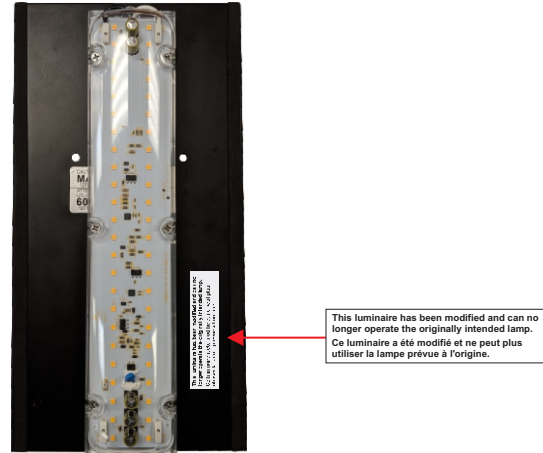

Figure 4
4. Place the provided Retrofit Label (C) on the luminaire back plate in a readily visible location to anyone attempting to service the luminaire. See Figure 4.
5. Completed retrofit should look like Figure 4.